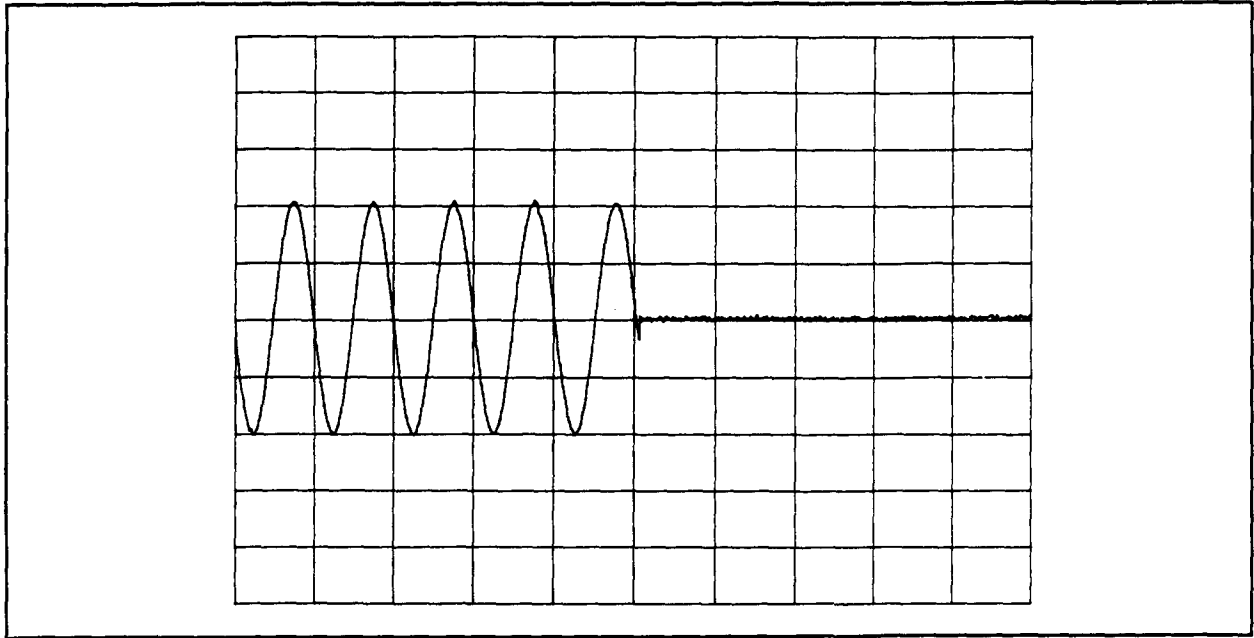

Figure 4-8. Tone Burst Waveform with Slight Negative Slewing
3. Adjust the oscilloscope's vertical gain and sweep speed to view the 1 kHz output burst from the Multifunction Synthesizer. The waveform should appear similar to the one shown in Figure 4-8.